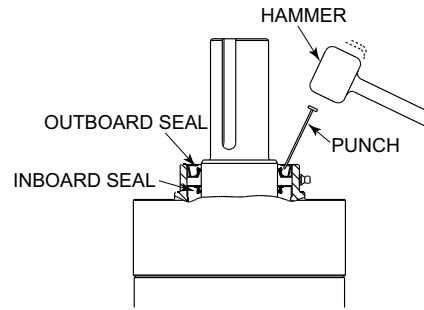

Figure 6.2.1.1 Piercing of Outboard Seal with Punch
5. From the pierced hole use the punch to pry the seal out of the housing. Reference Figure 6.2.1.2.